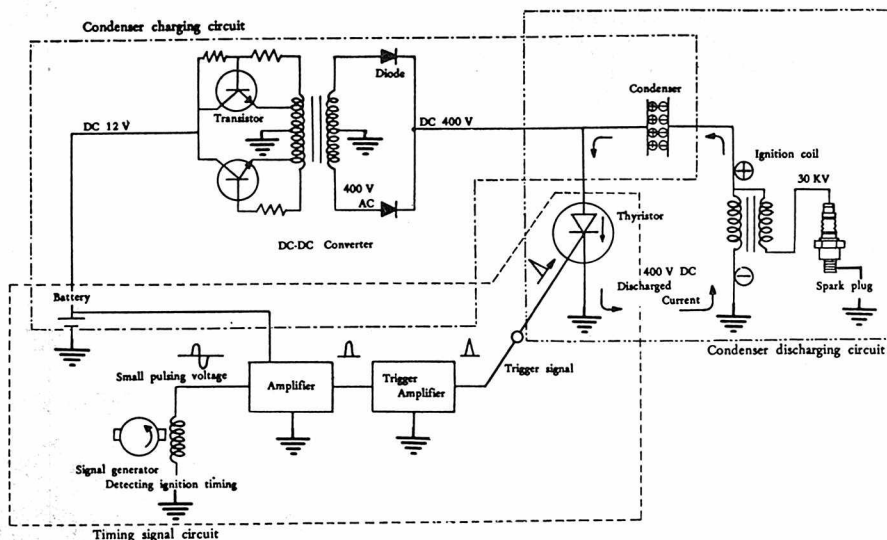
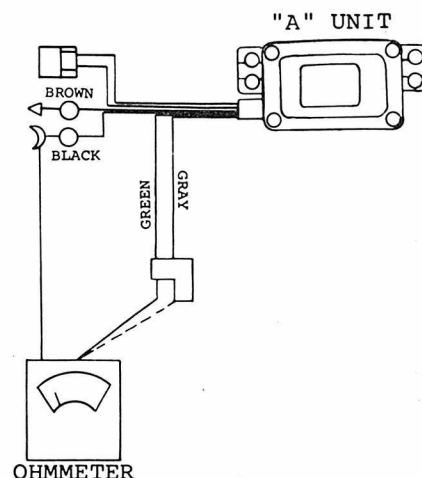

Fig. K3-10—Simplified diagram of CDI system used on late model A1 and A7 Kawasaki.
Fig. K3-11A—Connection points for "A" unit test. Disconnect "A" unit from "B" unit to make test.
inder. Damage to "A" unit (3—Fig. K3-10) or "B" unit (4) can also result in one cylinder not firing. Check individual components as described later.
The "A" unit (3—Fig. K3-10) can be checked separately as follows using an accurate ohmmeter. Attach ohmmeter lead to green wire and black (ground) wire as shown in Fig. K3-11A, then reverse ohmmeter leads and recheck. Resistance should be infinite with both connections. Check for short between gray wire and black (ground) wire the same way.
The "B" unit (4—Fig. K3-10) can be checked separately as follows using